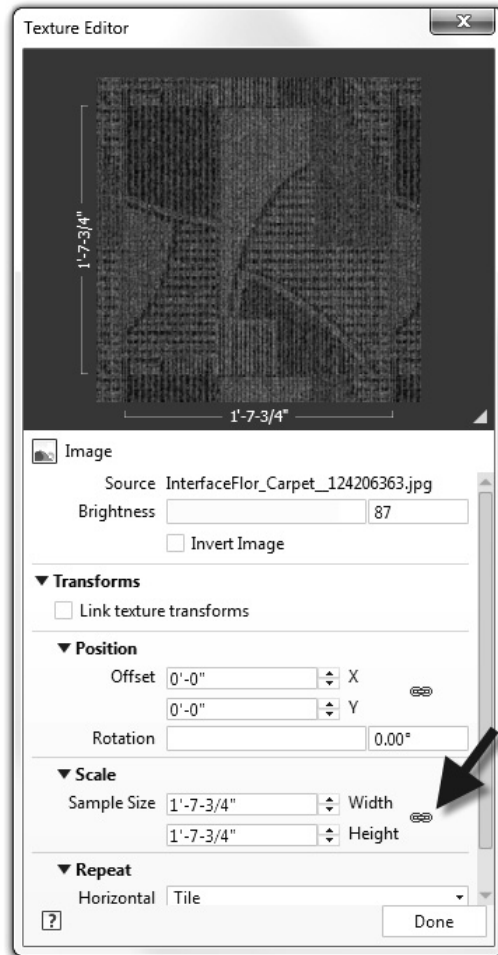

FIGURE 4-3.11 Texture Editor
You are now in the *Texture Editor* dialog (Figure 4-3.11). Here you may adjust several settings related to the raster image.
24. Click the **chain icon** pointed out in Figure 4-3.11.